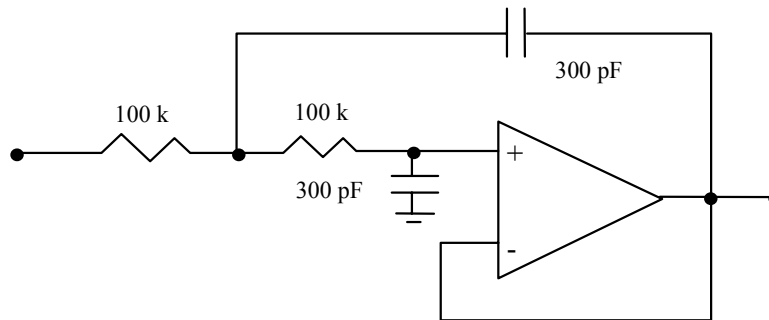

Figure 12.5 Active filter for smoothing the DAC output (use a LF356 Op Amp)
12.5 In practical applications, one usually wants to get rid of the steps in the output signal. This can be achieved by a low-pass filter to smooth the DAC output. Build the active filter circuit with an operational amplifier LF356 as shown in Figure 12.5 and measure its frequency response with sine waves. (Use the 10X scope probe.)